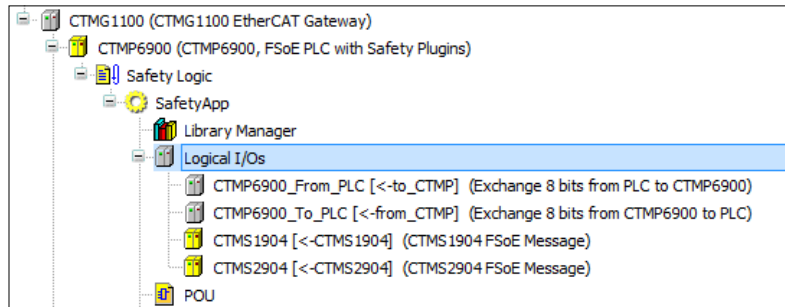

Fig. 24 Logical I/Os
4. Select the appropriate logical exchange object from the list that opens (see Fig. 24).